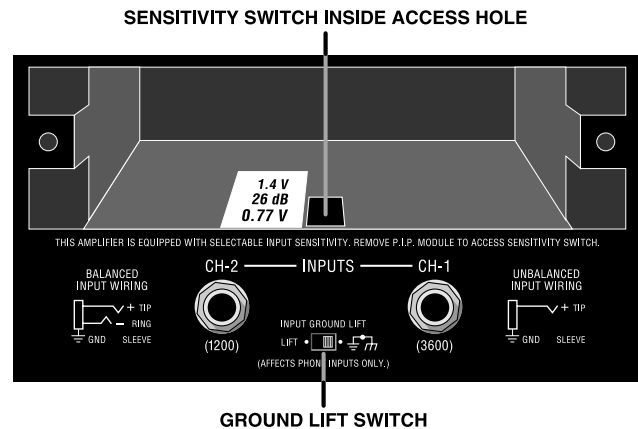

Fig. 4.3 Input Sensitivity and Ground Lift Switches
3. Locate the sensitivity switch access hole inside the chassis opening as shown in Figure 4.3. It is located just above the phone jack inputs.